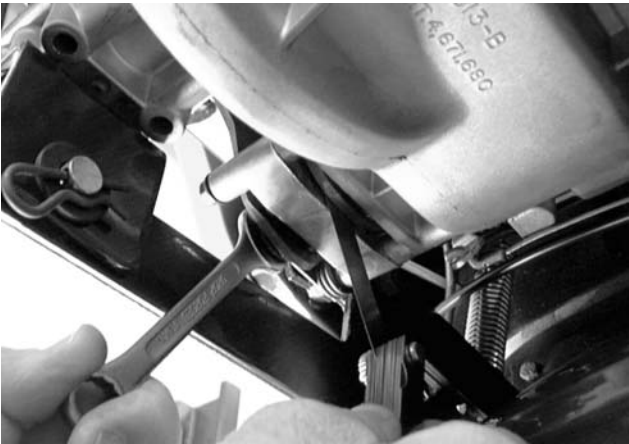

Figure 8-10.
10. Slide an .011" feeler gauge between the brake disc and the brake puck. See Figure 8-10.
11. Tighten the locking hex nut until the .011" feeler gauge is snug. See Figure 8-10.